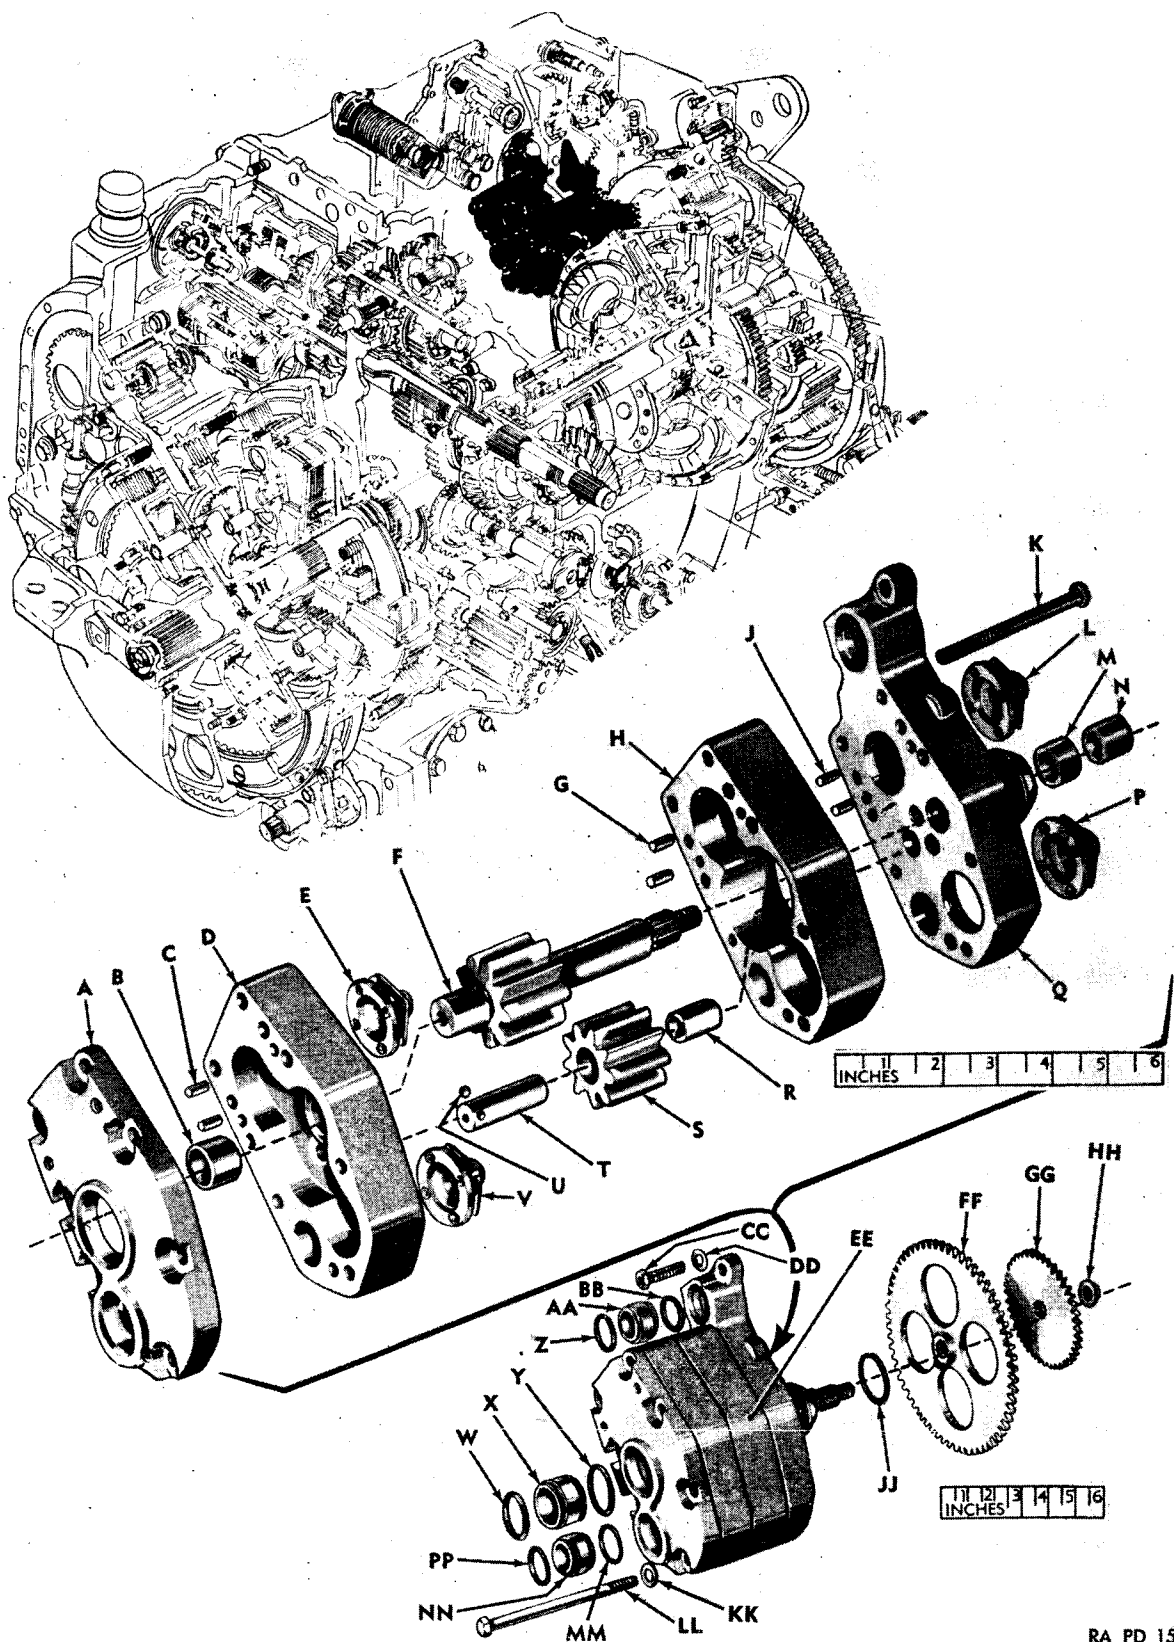

Figure 367. Output-brake and pressure-pump assembly—exploded view.
b. CHECK VALVES (fig. 367). Inspect the check valve assemblies for looseness in the housing or